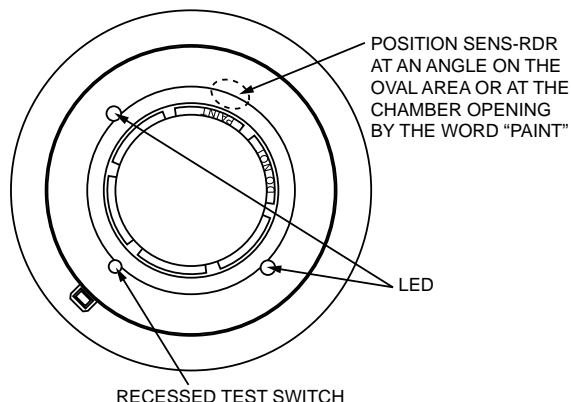

Figure 1: Reader location on i³ Series detectors
2. Place the reader by the smoke detector being tested. Position the reader at an angle on the oval area or at the chamber opening by the word "PAINT" (See Figures 1 and 2). A ledge and an anti-skid tip is provided on the reader to maintain the reader in place while it reads the sensitivity.